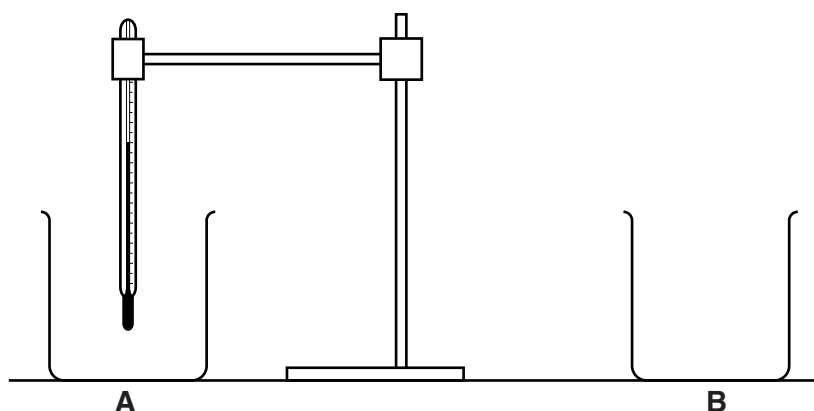

Fig. 2.1
1. Beaker **A**, the thermometer, clamp, boss and stand are to be set up for candidates as shown in Fig. 2.1. The thermometer bulb must be well below the 100cm^3 level of the beaker. Beaker **B** is to be available for later use.
Check that the apparatus is intact and is arranged as in Fig. 2.1.